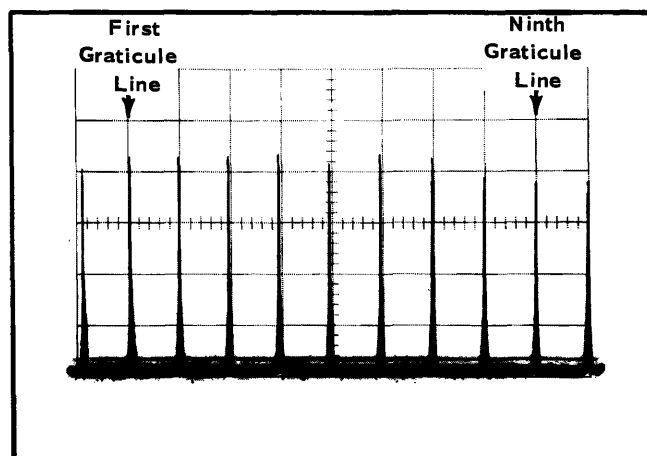

Fig. 5-1. Typical display for DISP CAL adjustment (Step 3).
d. Adjust the FINE IF CENTER FREQ control to keep the markers aligned with the graticule lines while setting the DISP CAL adjustment from one marker per centimeter from the first to the ninth graticule lines. Ignore the right and left edges of the graticule—see Fig. 5-1.